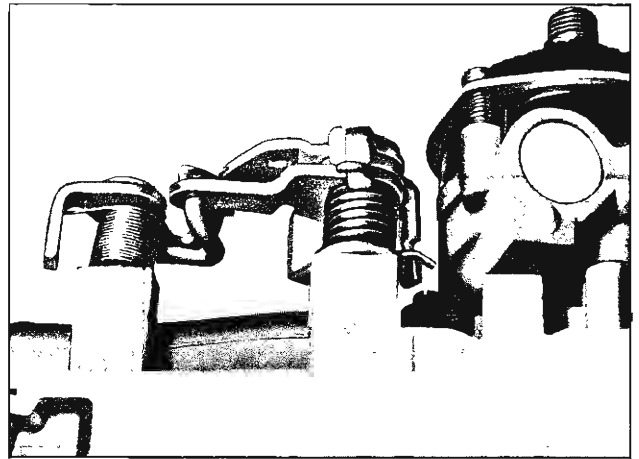

Fig. 85—Throttle Shaft Levers Installed
3. Install secondary throttle shaft dog lever and spring. Wind spring one turn (fig. 85).